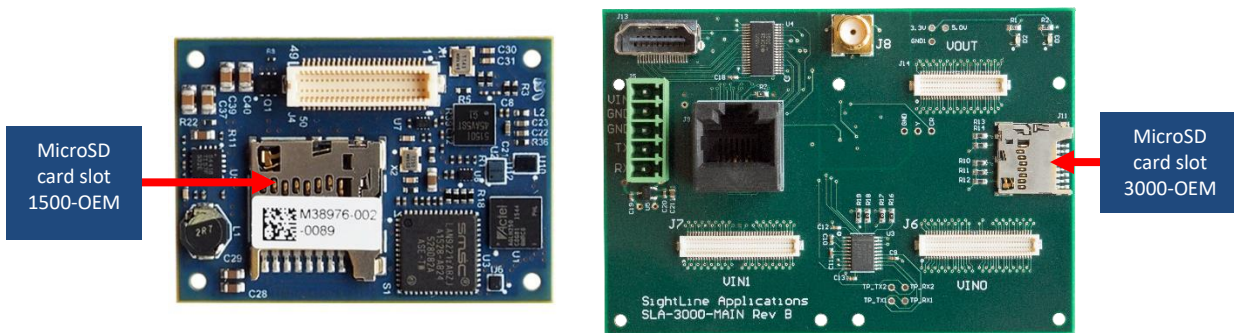

Figure A1: 1500 and 3000 Board MicroSD Card Slots
4. Make sure the OEM board is powered off. Insert the microSD card in the microSD slot on the appropriate board as shown in **Figure A1**.